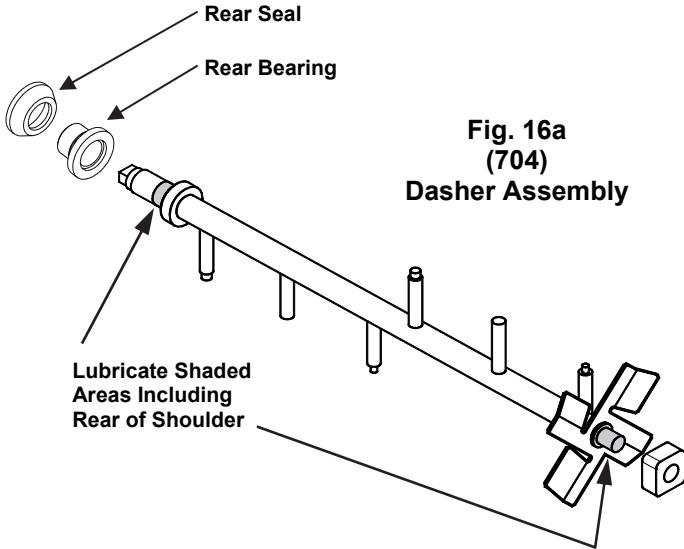

Fig. 16a
- a. Apply a generous amount of lubricant to the shoulder of the dasher and the area of the shaft where the white plastic portion of the assembled rear seal contacts the shaft (Fig. 16a & 16b). This is easily performed by running a 1/4" (6 mm) bead of lubricant around the shoulder of the dasher.